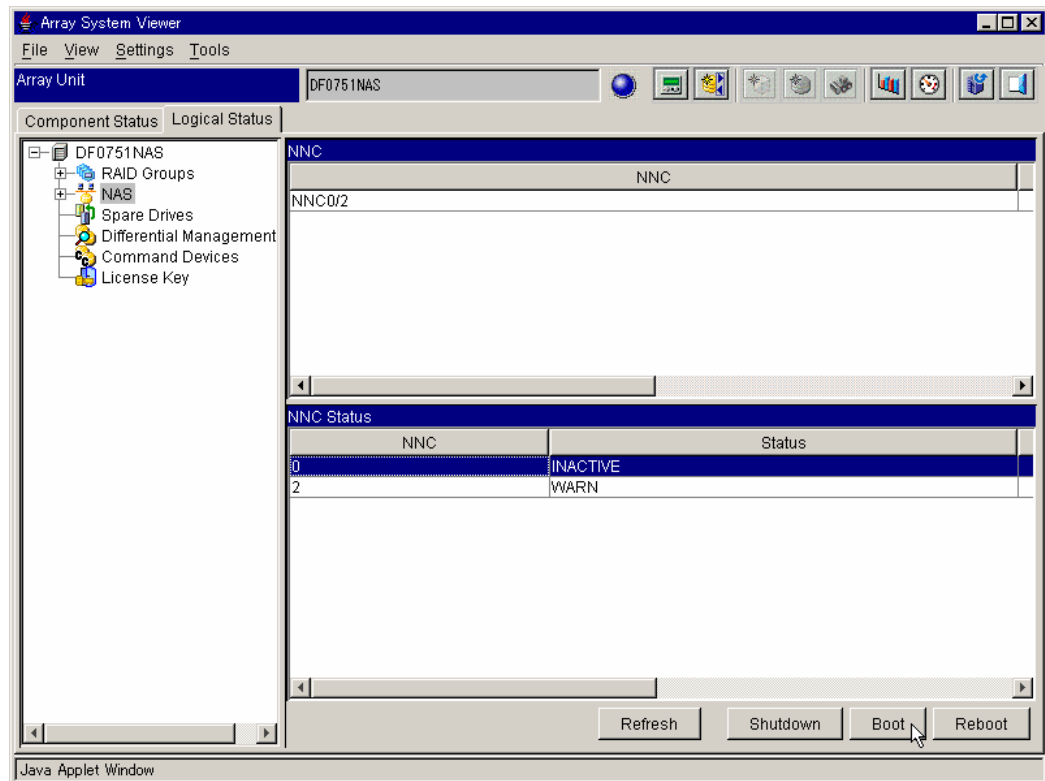

Figure 10.16 Array System Viewer - NNC Status list
2. Select the **NAS** icon, and then select the **NNC** number on the **NNC Status** list. See Figure 10.16.